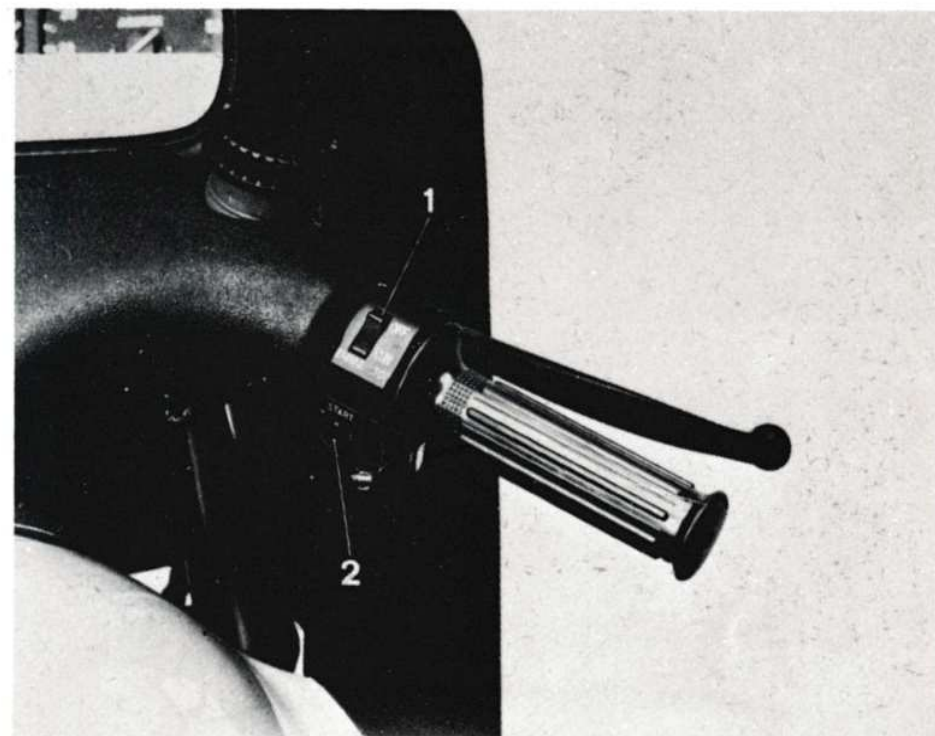

Fig. 5
**Right Handlebar Cluster Switches. Fig. 5**